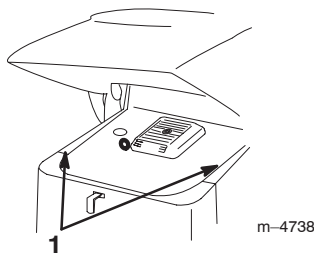

Figure 21
2. Slide the side screens (Fig. 21) up and out of the slots in the front screen and frame.
Slide the side screens (Fig. 21) into place in the slots in the front screen and frame.